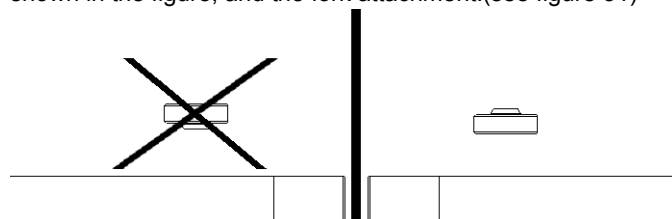

figure 31
- 9** Replace the float, taking care to respect the orientation shown in the figure, and the fork attachment.(see figure 31)